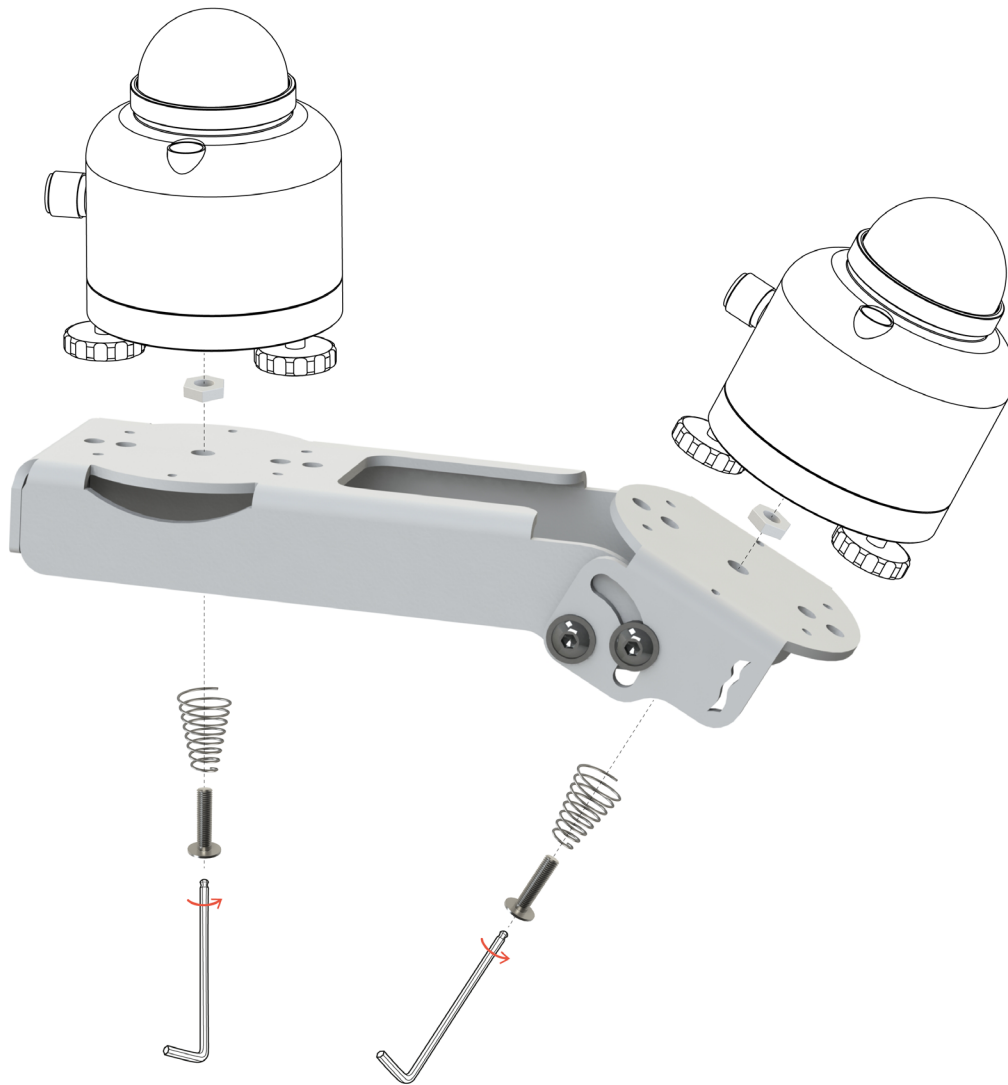

Figure 4.2.2 Installation of two pyranometers on PMF02 using the central spring-loaded bolts, step 3a
- 3a. Install the two sensors using the spring-loaded bolts: Attach the M6x25 bolt with the spring to the bracket and lock it using the M6 nut. Put the sensor onto the bolt, place the sensor feet in the designated holes. Turn the bolt further into the sensor bottom plate by using a 4 mm hex key. See Figure 4.2.2.